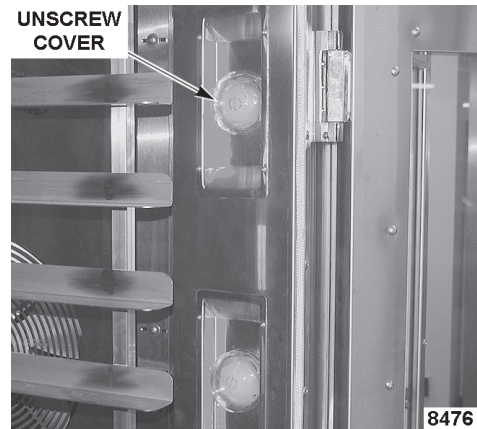

Fig. 1
- A. Unscrew lamp cover (Fig. 1) to disengage from lamp sockets. Remove lamp from socket.